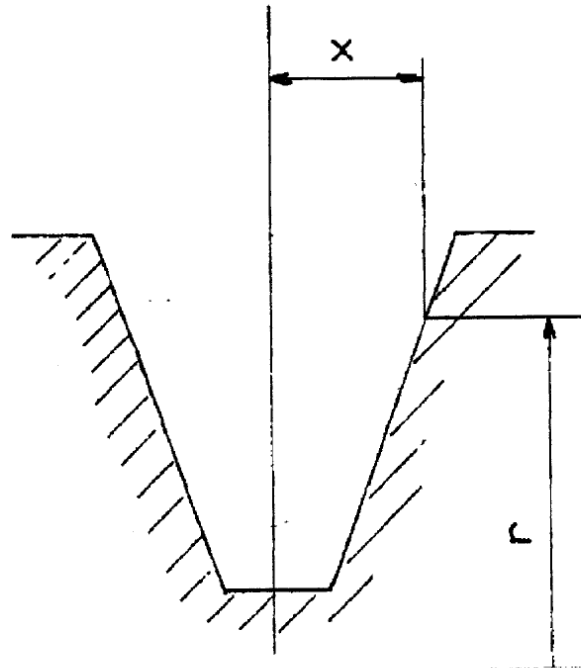

Fig. 4 - Coordinates of profile ZK in the axial plane.
**GSHOB** also gives the axial coordinates of the ghost worm equivalent to the hob as per fig. 4. They can be used to check the profile in an axial plane but, with profile ZI, it is highly preferable to check the tangent to the base helix.